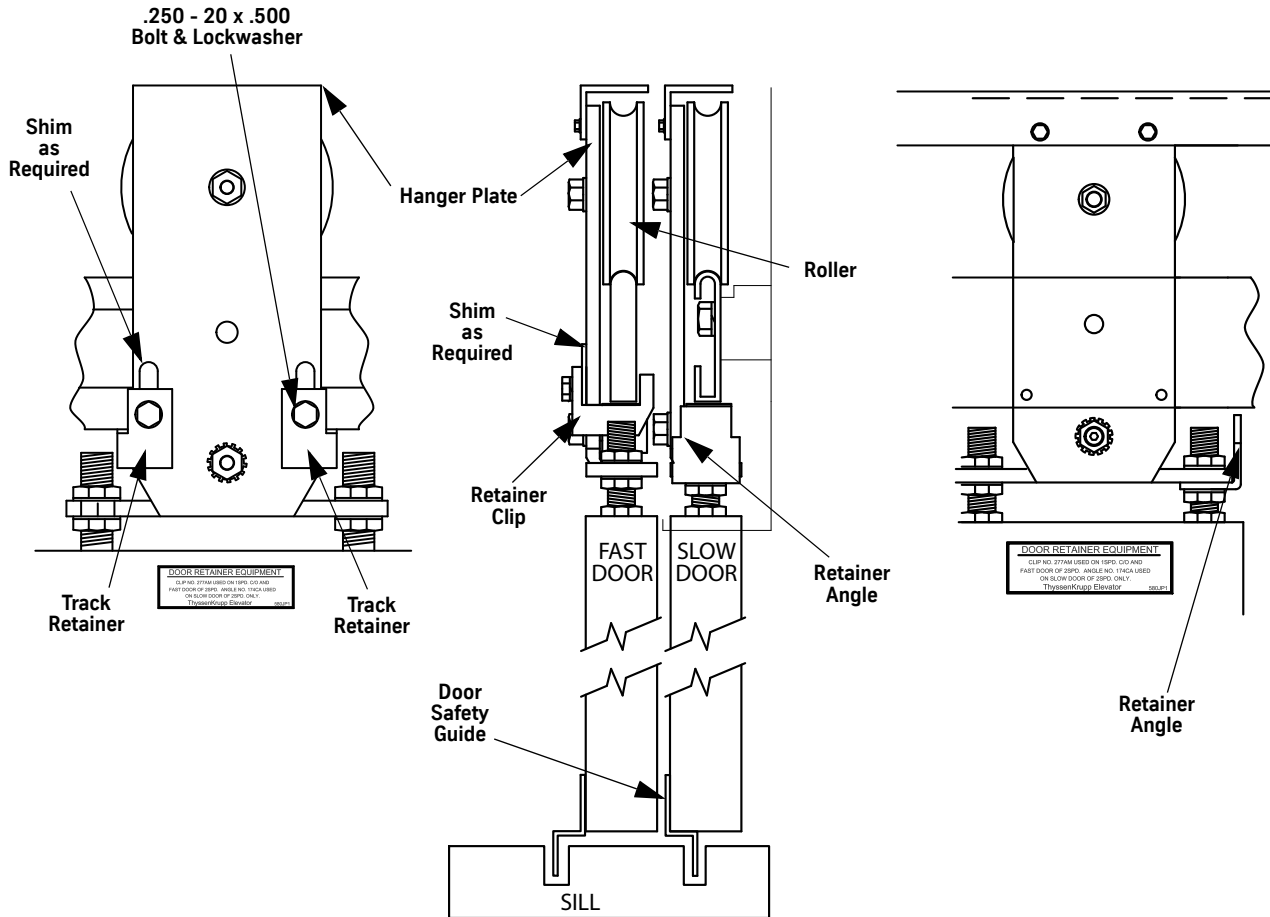

Figure 43 - Top Door Retainer
1. On each side of the door panel, use the provided hardware to install a top door retainer on the hanger. See Figure 43.